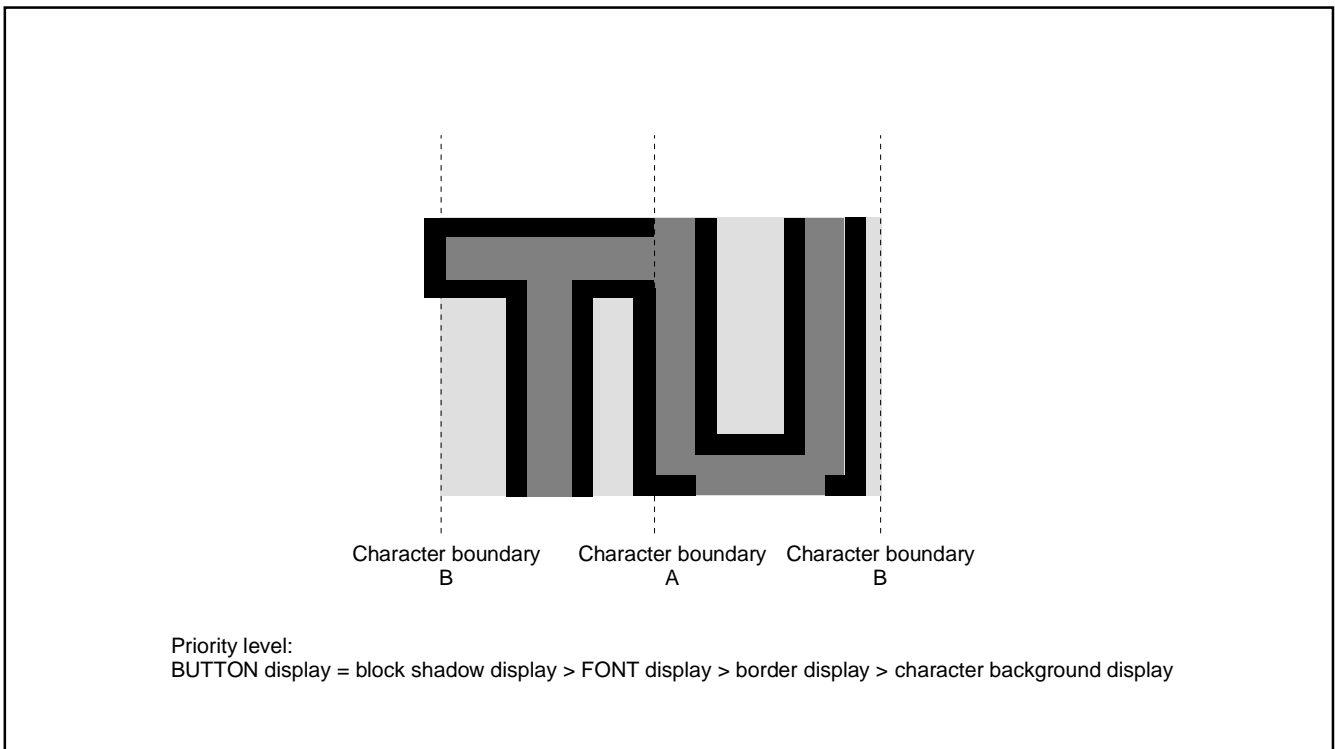

Fig. 8.10.22 Border Priority
- 2:** When the border dot overlaps on the next character font, the character font has priority (refer to Figure 8.10.22 A). When the border dot overlaps on the next character back ground, the border has priority (refer to Figure 8.10.22 B).
- 3:** The border in vertical out of character area is not displayed in OSD mode (refer to Figure 8.10.22).